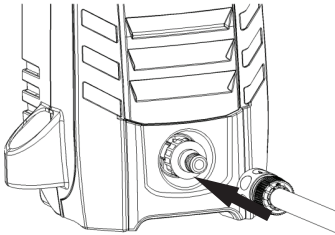

Figure 6
5. Connect the water supply hose to the water inlet connector. See figure 6 and 7. The water supply hose is not provided with the pressure washer contents.